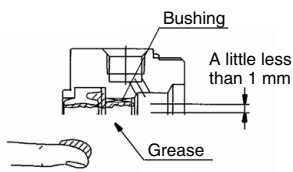

Fig. 6 Rod seal
- ③7 Rod seal A: Apply grease to the seal and the inner circumference of the bush. (Fig. 6)